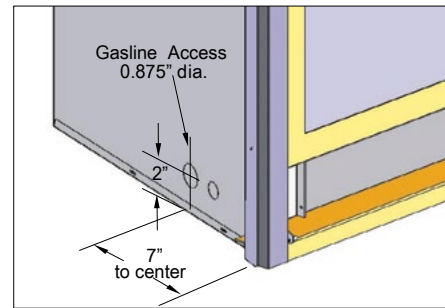

Figure 5. Gas line access.
- See **Figure 5** below for location of gas line access.